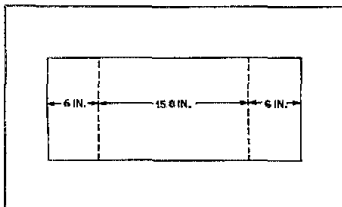

Fig. 6 — Correct position of bend lines.
Fig. 6 — Suggested layout for a universal mounting plate. U bolts or muffler clamps can be used to attach the vertical to the plate, and to affix the supporting mast to the antenna. The arrows show the angles at which the antenna and the mast can be mounted to meet a host of mechanical conditions. Hole "B" is for a uhf bulkhead coax connector.
etc. For this reason it is helpful to have a mounting plate which will satisfy many unknown conditions. Fig. 6 shows the layout for a plate that is made from 1/4 inch (6.3 mm) thick aluminum plate. Steel, copper or brass plate is also suitable. The top half of the plate contains two sets of U-bolt holes for mounting the radiator vertically. A second set of holes permits 45-degree mounting from a window sill.
quence. You can see that the gain will occur in the center and not on the ends, so you simply draw the bend lines 6 in. from the ends, which is the desired finished dimension (Fig. 6).
Fig. 6 — Old winding stripped down to the original primary, which was then wrapped with fiberglass-reinforced tape. If the enamel insulation of the wire has been damaged during the process of removing the other windings, use a small amount of Q-dope or fast-setting epoxy to restore the integrity of the winding before wrapping with the tape.
Carefully remove the brittle paper that surrounds the windings. If the secondary winding that was measured earlier is the outermost winding, unwind it and count the turns. It is important that you count the number of turns precisely to be able to calculate the amount of wire needed for the new secondary. If the known-value secondary is not the outermost, remove the outer secondaries down to the known-value one and then count the turns. Write down the number of turns and the voltage for future reference. Remove the other secondaries. We have assumed that the primary is the innermost winding; this may not always be the case, but the chances seem remote that you would find it otherwise. If, in fact, the primary is not the innermost winding you have some options: (1) you may want to rewind the whole transformer, including the primary, (2) you could cut and tape the ends of any secondaries that lie beneath the primary and wind the new secondaries around the primary, or (3) you may elect to find another transformer and start over. If you have the transformers available, starting from scratch may be the best course. Whatever, the final product of this stage should appear similar to the winding shown in Fig. 6.